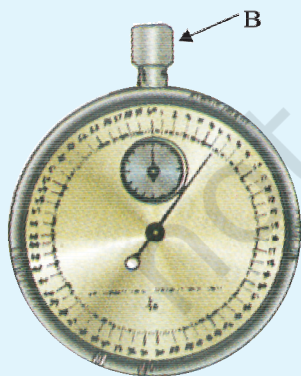

Fig.E 6.1(a): Stop - Watch
A stop-watch is a special kind of watch. It has a multipurpose knob or button (B) for start/stop/back to zero position [Fig. E 6.1(b)]. It has two circular dials, the bigger one for a longer second's hand and the other smaller one for a shorter minute's hand. The second's dial has 30 equal divisions, each division representing 0.1 second. Before using a stop-watch you should find its least count. In one rotation, the seconds hand covers 30 seconds (marked by black colour) then in the second rotation another 30 seconds are covered (marked by red colour), therefore, the least count is 0.1 second.
The least count of a stop-watch is generally about 0.1 s [Fig. E 6.1(b)] while that of a stop-clock is 1 s, so for more accurate measurement of time intervals in a school laboratory, a stop-watch is preferred. Digital stop-watches are also available now. These watches may be started by pressing the button and can be stopped by pressing the same button